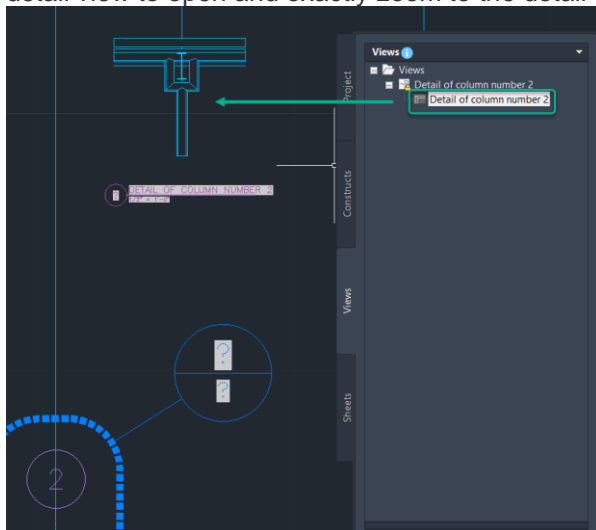

Figure 11
14. In the Project Navigator, switch to the View Tab, double click the "Detail of column number 2" detail view to open and exactly zoom to the detail component. See figure 11 below.